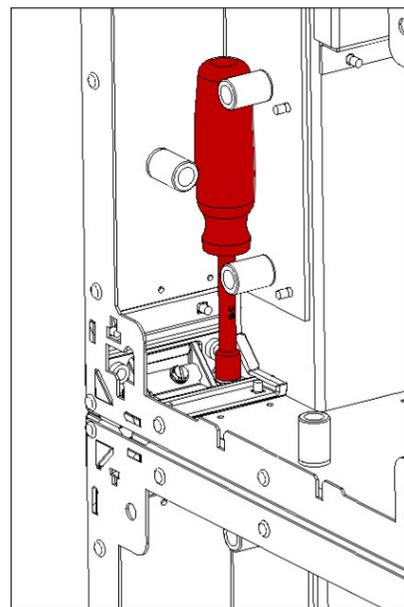

Figure 12: Tighten Bolt
- Use a $\frac{3}{8}$ " nutdriver to tighten the bolts. The minimum torque required is 6 ft-lbs. Avoid over-tightening. After the precision blocks are tight together, additional torque will not tighten the seams and can damage the blocks. Refer to **Figure 12**.